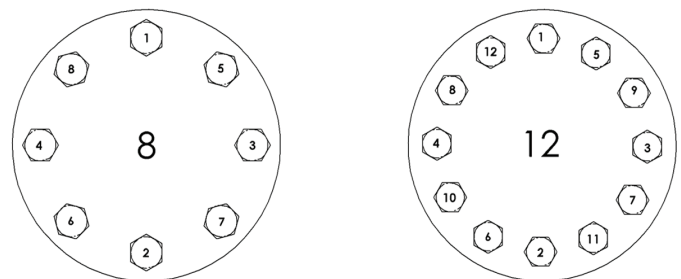

Figure 13: Torque Sequence
7. Tighten the Body Nuts (B014) to the appropriate torque value found in Table. Tighten in sequence using at least 5 equal increments of torque. (See Figure 13 for torque sequence and recommended torque steps). It is important to ensure that the Bonnet is tightened down evenly to ensure proper alignment and fit of the internal components required for smooth valve operation and performance.